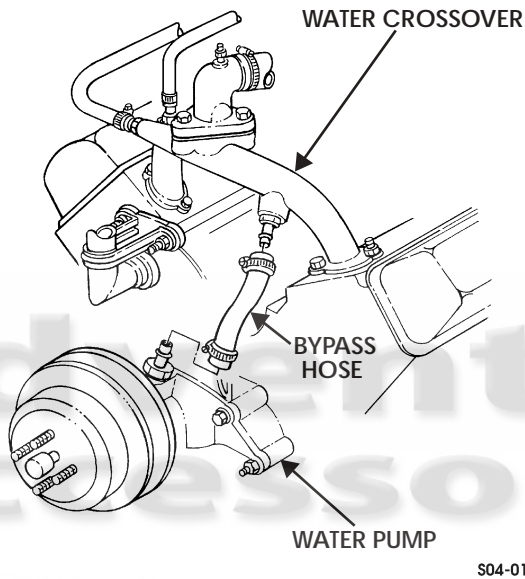

Figure 4-13: Thermostat Bypass Hose
2. Loosen two clamps and remove hose from thermostat bypass nipple and heater core adapter (Figure 4-13).
1. Install hose on heater core adapter and thermostat bypass nipple and tighten two clamps (Figure 4-13).